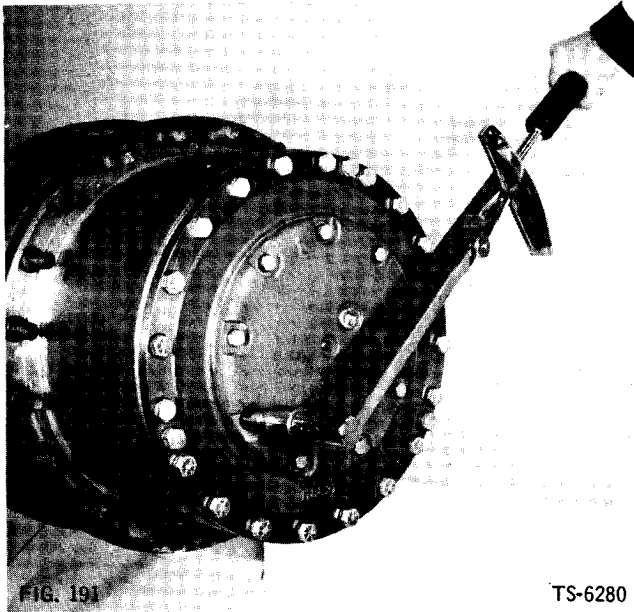

FIG. 191
37. Install cap-to-carrier "O" ring seal in groove in sun gear thrust cap assembly. Install thrust cap on planet carrier. Make certain that "O" ring, if used, is properly positioned in the groove in the mounting face, and is not twisted. Apply light coat of Permatex No. 2 to threads of bolts and install. Tighten to specified torque (Fig. 191).